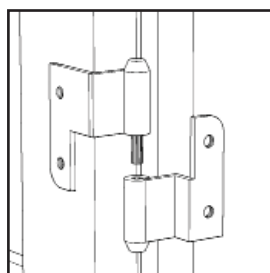

Figure 6
Attach Doors (J) and (K) to unit by sliding the door life hinges into the side panel lift hinges. (See Figure 6)